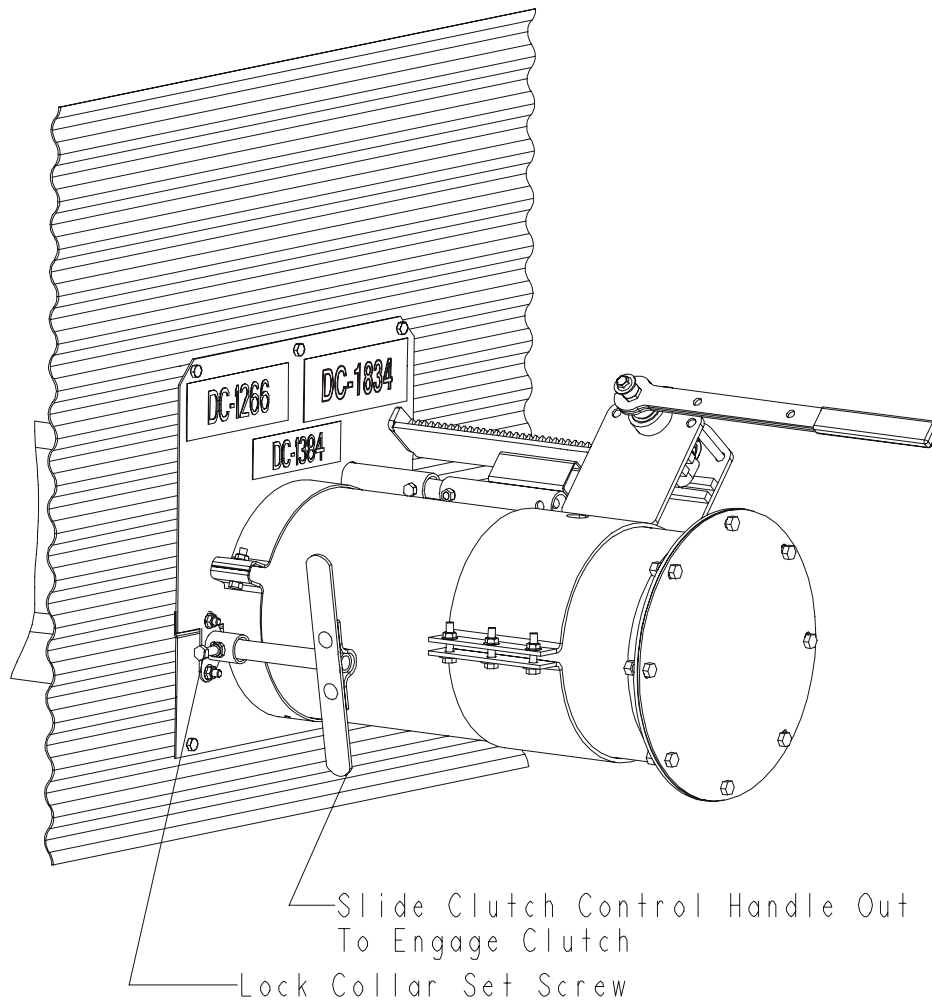

Fig. 16
- B. Loosen the Lock Collar Set Screw and pull on Clutch Control Handle to engage clutch. (See Figure 16)